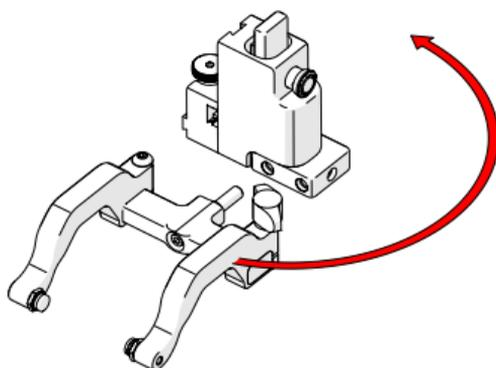

Fig. 122 - Orient to opposite side
2. Position the yoke and arms to the opposite side of the probe holder (Fig. 122).